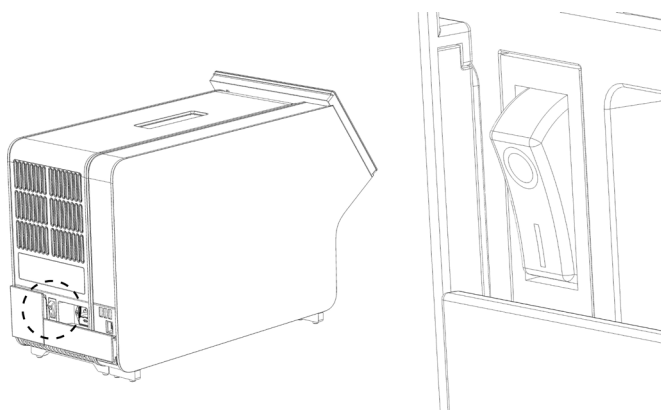

Figure 11. Locating the power switch and setting it to the "I" position.
9. Power ON the instrument by pressing the power switch on the back of the Analytical Module to the "I" position (Figure 11). Confirm that the status indicators of the Analytical and Operational Modules are blue.